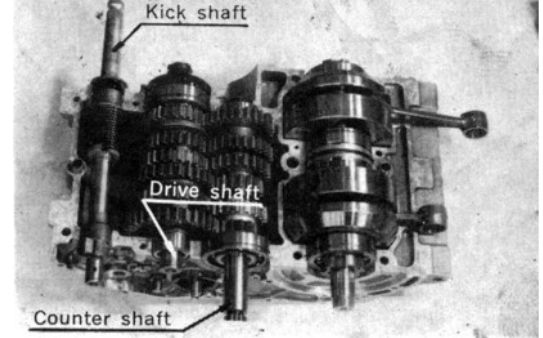

Fig. 29 Gear box
18. Remove upper crank case cover. Fig. 29 shows the gear box after taking off the upper cover.